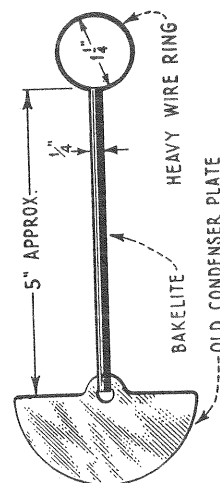

Figure 17—Aligning tool
- (a) A small tool such as illustrated in Figure 17 is necessary. This may be easily constructed from an old condenser plate, a piece of wire and a bakelite rod.